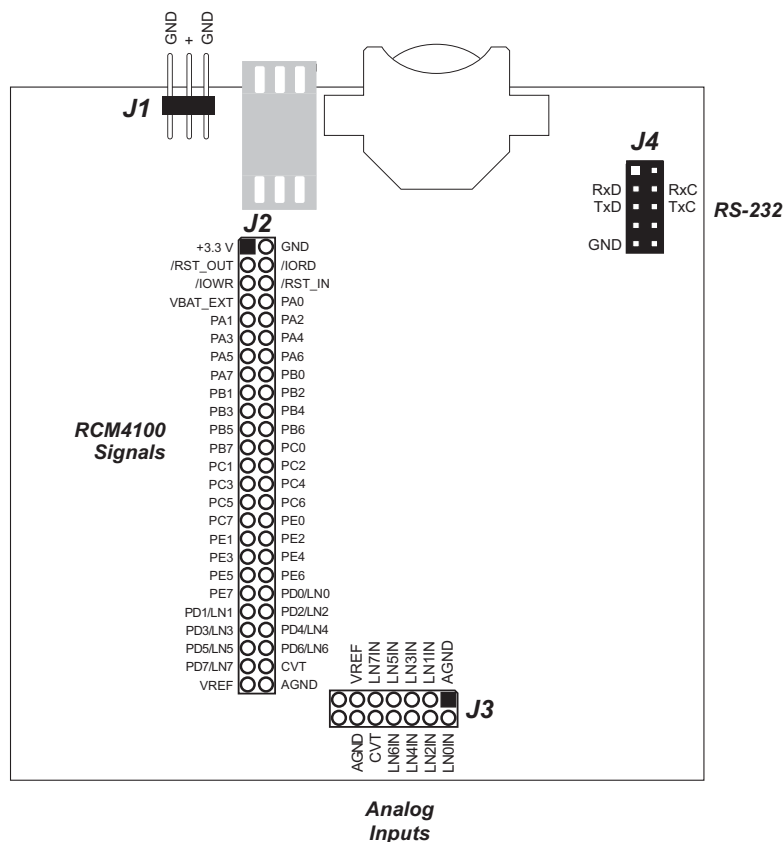

Figure B-4. Prototyping Board Pinout
- **Module Extension Header**—The complete non-analog pin set of the RCM4000 module is duplicated at header J2. Developers can solder wires directly into the appropriate holes, or, for more flexible development, a 2 × 25 header strip with a 0.1" pitch can be soldered into place. See Figure B-4 for the header pinouts.
- **Analog Inputs Header**—The complete analog pin set of the RCM4000 module is duplicated at header J3. Developers can solder wires directly into the appropriate holes, or, for more flexible development, a 2 × 7 header strip with a 0.1" pitch can be soldered into place. See Figure B-4 for the header pinouts.
The Prototyping Board provides the user with RCM4000 connection points brought out conveniently to labeled points at header J2 on the Prototyping Board. Although header J2 is unstuffed, a 2×25 header is included in the bag of parts. RS-232 signals (Serial Ports C and D) are available on header J4. A header strip at J4 allows you to connect a ribbon cable, and a ribbon cable to DB9 connector is included with the Development Kit. The pinouts for these locations are shown in Figure B-4.